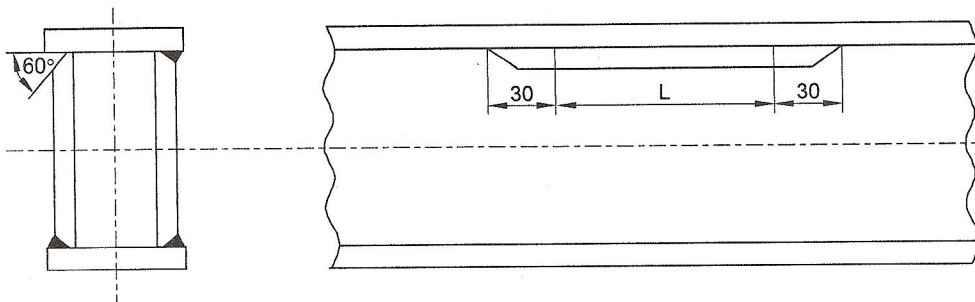

Fig. 09-01 Restoration sketch of crack welding seam (L is the length of crack)
Original welding seams are not high enough or through welding may cause welding seams crack (caused by welding quality problem or fatigue due to frequent stress on welding place). Therefore, adopt the measure stated in Fig. 09-01 for restoration.
- 1) Open a 60° groove again at the original cracking place (See Fig. 09-01) which is longer than 30mm at both ends of the welding seam.